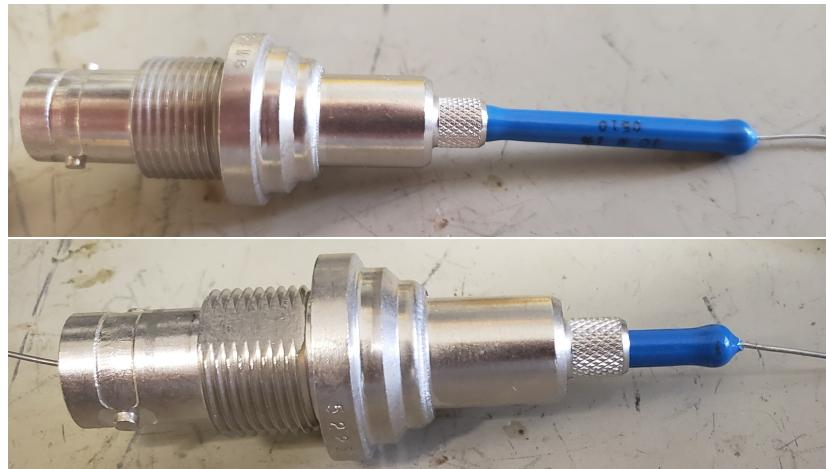

Figure 11: Resistor fit test.
1. Trim the lead on the resistors that will connect to the capacitor array down to  $\sim 6$  mm. Bend a loop into the trimmed lead so it easily holds a solder ball. Make sure the resistor that will be used for the SHV connector end can fit in the connector. See figure 11.